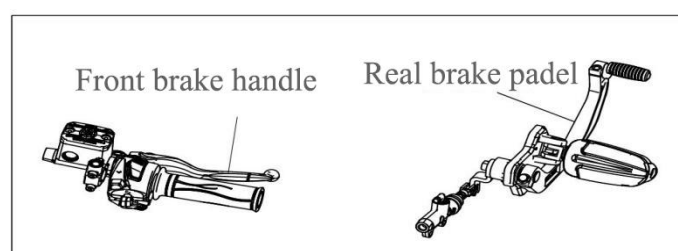

Figure 15 Brake position diagram
5.4.2 Climbing or turning driving (Figure 15)